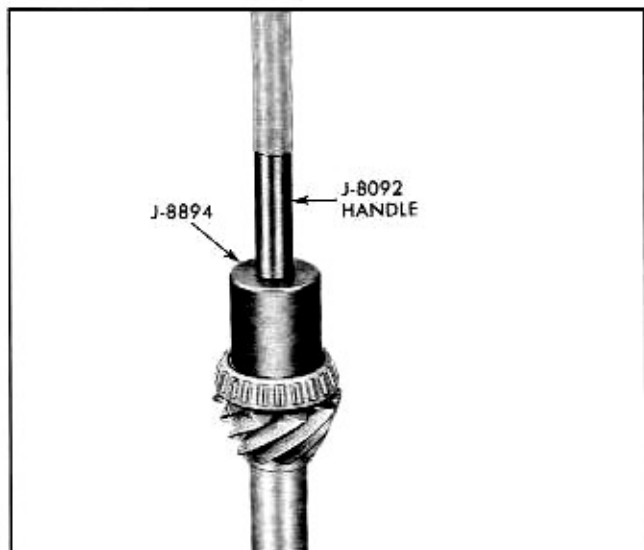

Fig. 4-37 Tool Positioned to Install Rear Pinion Bearing
1. Press on rear pinion bearing using J-8894 and J-8092 handle (Fig. 4-37).